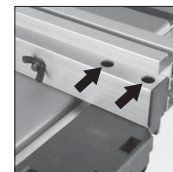

Fig. 14
- If adjustment is needed, gain access to the two socket headed screws through the two holes in the carrier. (Fig. 14)